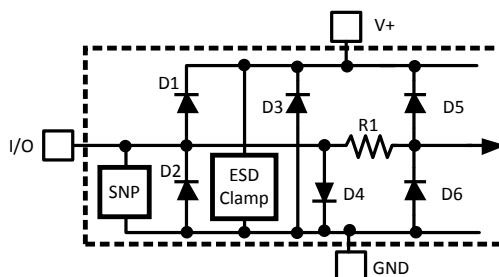

Figure 1. ESD Protection Input Structure
- (1) Absolute Maximum Ratings indicate limits beyond which damage to the device may occur. DC and AC electrical specifications do not apply when operating the device beyond its rated operating conditions.
- (2) When the input voltage (V_I) at any pin exceeds the power supplies (V_I < GND or V_I > V_{DD}), the current at that pin should be limited to 5 mA. Parasitic components and or ESD protection circuitry are shown in Table 1 and Figure 1 for the LM86's pins. The nominal breakdown voltage of D3 is 6.5 V. Care should be taken not to forward bias the parasitic diode, D1, present on pins: D+, D-. Doing so by more than 50 mV may corrupt a temperature measurements.
- (3) See the URL "<http://www.national.com/packaging/>" for other recommendations and methods of soldering surface mount devices.
- (4) Human body model, 100pF discharged through a 1.5kΩ resistor. Machine model, 200pF discharged directly into each pin.